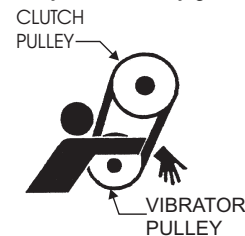

Figure 28. V-Belt Hazard
**NEVER** attempt to check the V-belt with the engine running. Severe injury can occur if your hand gets caught between the V-belt and the clutch (Figure 28). Always use safety gloves.